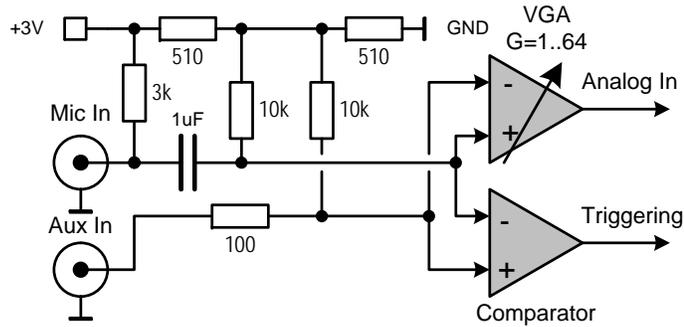

Figure 6: Internal circuit connections for Aux In and Mic In inputs, resulting in Analog In and Triggering signals used in SWF/SWL and FM/PhM modes
Signals from Aux In and Mic In inputs are fed to the variable gain amplifier (VGA) and comparator, forming accordingly *Analog In*, used as modulating signal, and Triggering – for synchronous run in Sweep Frequency and Sweep Level modes, see figure 6.
i Figure 6 shows the internal circuit connections for the Aux In and Mic In inputs
-  – (External) *Analog In* signal, formed by the Aux In or Mic In inputs (see figure 6), is used as a modulating signal in FM or PhM modes;